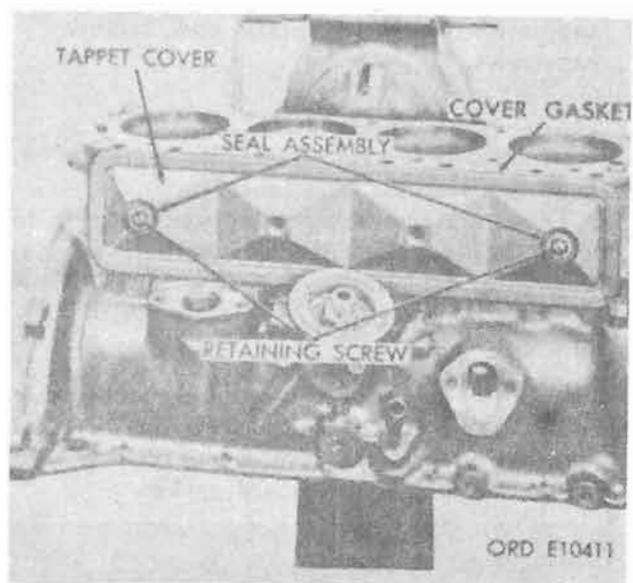

Figure 4-117. Tappet cover and gasket.
a. **Tappet Cover and Gasket.** Remove remaining two panhead screws and seal assemblies holding push rod cover to cylinder block. Remove tappet cover and gasket (fig. 4-117). Discard gasket and seal assemblies.